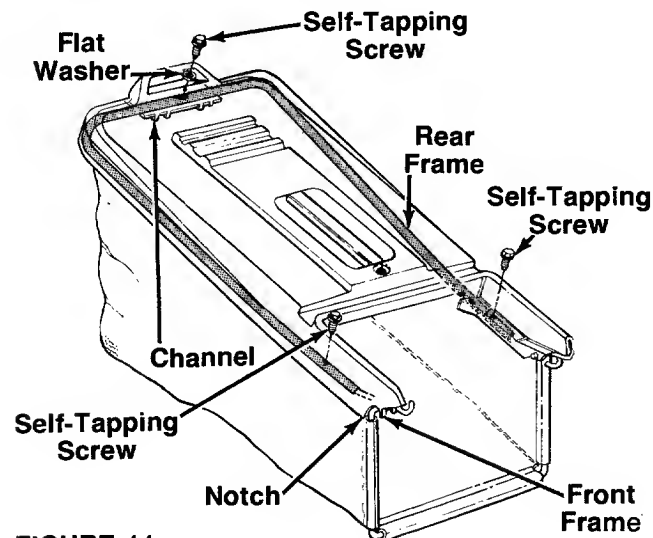

FIGURE 11.
4. Attach the hardtop cover to the grass catcher as follows. See figure 11.
- c. Attach rear of cover to frame using the flat washer and one self-tapping screw as shown in figure 11. Attach the sides of the cover to frame with the other two self-tapping screws.